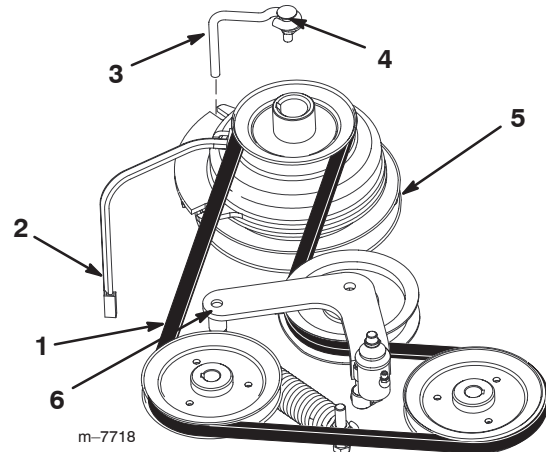

Figure 58
- Remove the bolt from the clutch stop and unplug the clutch electrical wire (Fig. 58).
- Remove the traction belt from the engine and the hydraulic pump pulleys (Fig. 58).
- Install the new belt around the engine and the hydraulic pump pulleys (Fig. 58).
- Release the pressure on the spring loaded idler (Fig. 58).